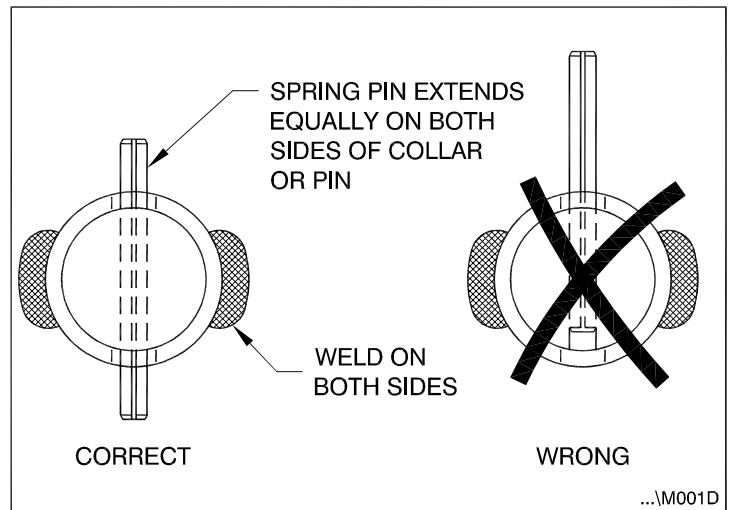

Figure 18: Spring Pins
2. Check for presence and proper seating of all spring pins on all axles, cylinders and rollers. Confirm that all welds on the spring pin collars are intact (See "Figure 18: Spring Pins" on page 34).